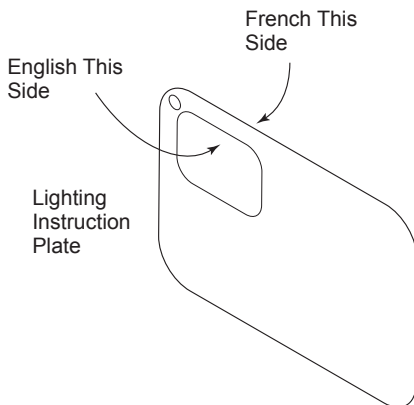

Figure 7 - Applying English and French Conversion Labels Over Existing Certification Labels on Lighting Instruction Plate
1. Apply the English and French conversion labels over the top of existing certification labels (see Figure 7). Existing certification labels are located on the lighting instruction plate inside the gas valve compartment area. With permanent ink, print the previous model number on the label in the space provided (see Figure 8, page 4).